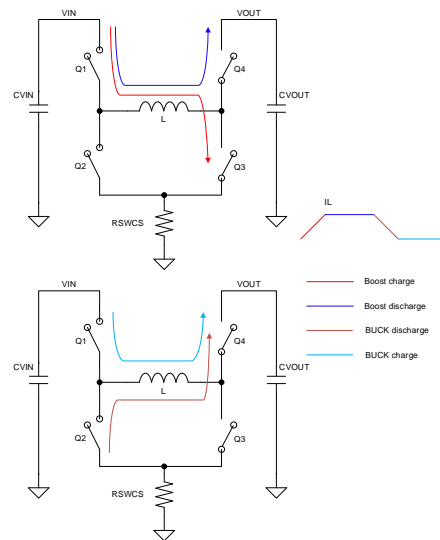

Figure 11. $V_{IN} = V_{OUT}$: Buck-Boost Mode
- When V_{IN} is close to V_{OUT} , the device operates in Buck-Boost mode, as shown in Figure 11.